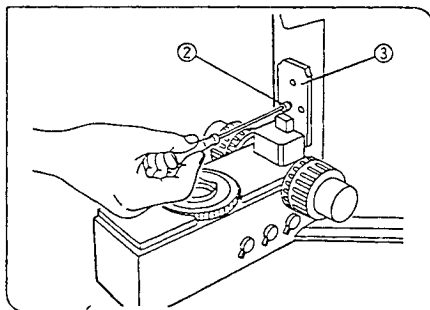

Fig. 45
3. Turn the coarse adjustment knob and raise the focusing block ③ to where the stopper screw ② in the arm becomes visible. (Fig. 45)
4. Using the Allen screwdriver, loosen and remove the upper stopper screw ②.
- ◎ Store the removed stopper screw ② in a safe place so that it will not be lost, if needed again.